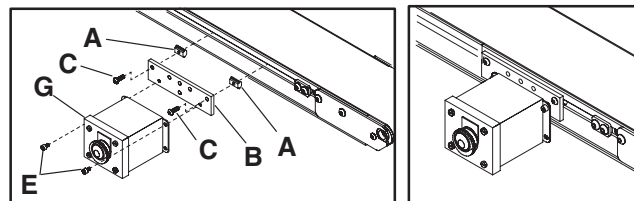

Figure 6
1. Attach Pushbutton Box (Figure 6, item G) to mounting plate (B) with screws (E).
2. Insert two Single Drop-in T-bars (Figure 6, item A) into conveyor T-slot.
3. Attach Pushbutton Box assembly to T-bars (A) with screws (C).